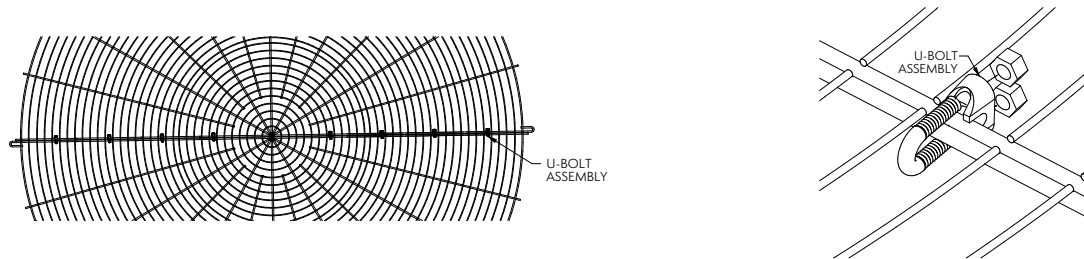

Figure 25 — U-Bolt Assembly Spacing & Arrangement
3. Join the two screen halves with "U" bolts, as shown in **Figure 25**.